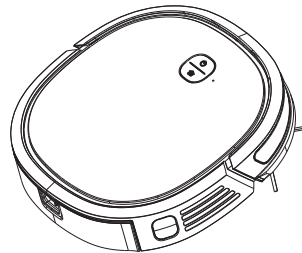

fig 2
2. Sweeping operation: Press  to start/stop sweeping (fig 2).